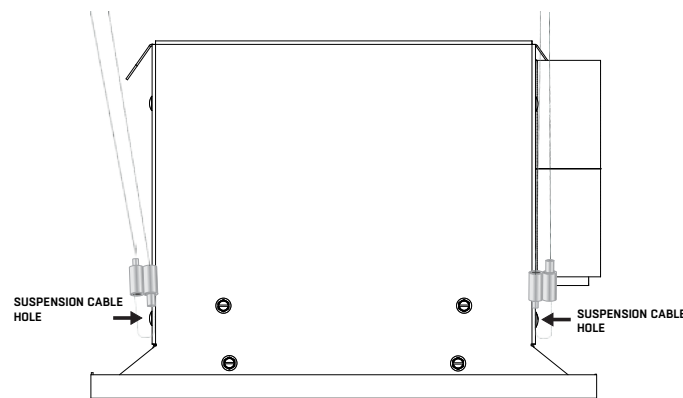
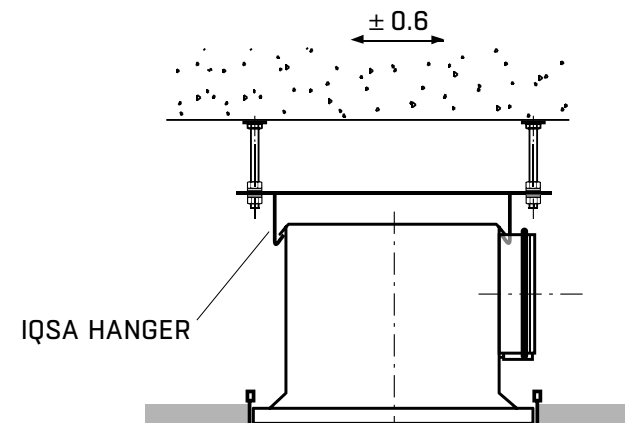

FIGURE 1. Aurora IQSA suspension near structure with cables.
FIGURE 3. Aurora IQSA suspension near structure with hanger.
- 1) Chilled beams shall be independently suspended from the structure above by four (4) cables (see **FIGURE 1**) or four (4) threaded rods of 3/8" diameter. (See **FIGURE 3**) The upper end of the rods may be anchored into the structure or suspended from metal channels that are: